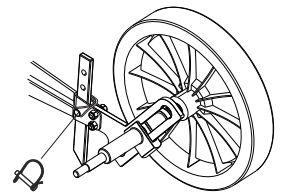

Figure 11
- The drag stake adds resistance when cultivating which makes the unit easier to control. It also can be adjusted to change the depth of cultivating. To adjust the drag stake position, follow the steps below and refer to Figure 11: